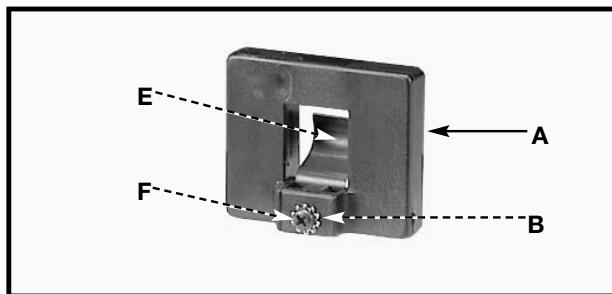
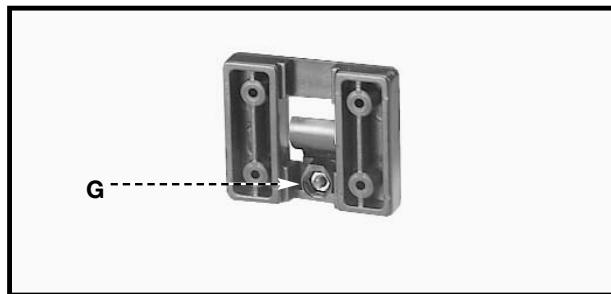

Fig. 5
Fig. 6
1. Attach the spring clip (E) Fig. 5 to the miter gauge holder (A) using an M4x.7x10mm pan head screw (F), 3/16 inch external tooth lockwasher, (B) and M4x.7 hex nut.
- NOTE:** The hex nut (G) Fig. 6 will fit into the recess at the back of the miter gauge holder (A) Fig. 5 to keep the spring clip (E) secured to the miter gauge holder.